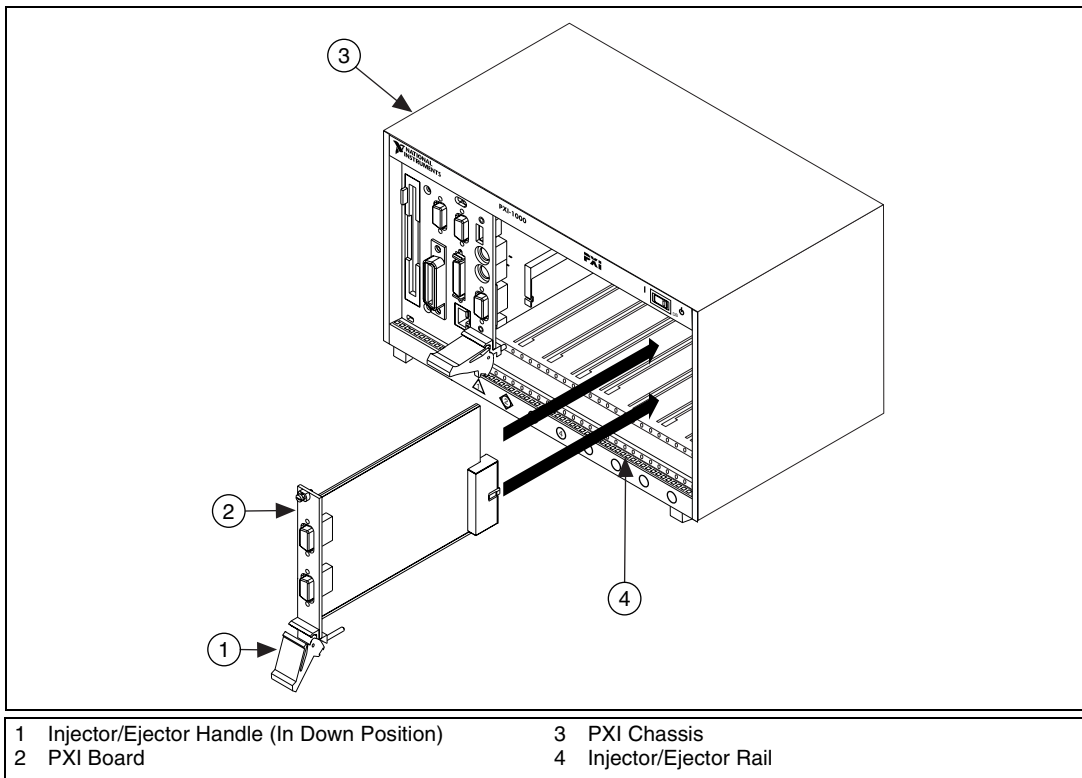

Figure 2. Installing the PXI Hardware
6. Insert the PXI board into the selected 5 V slot. Use the injector/ejector handle to fully inject the device into place. Figure 2 shows how to install the PXI board into a PXI or CompactPCI chassis.